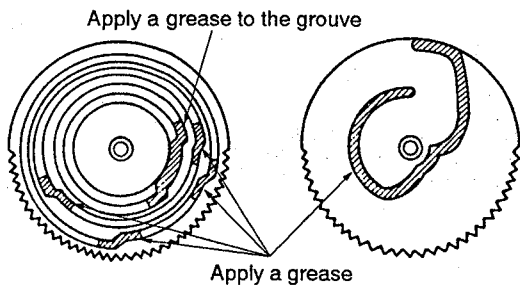

Fig. 10
① Grease the cam gear. (Fig.10)